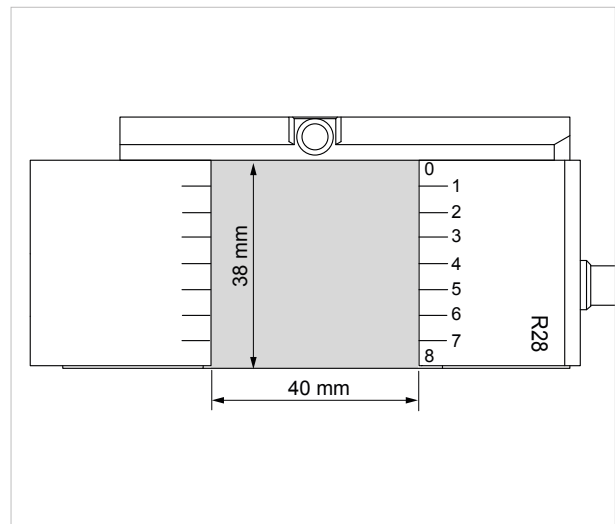

Fig. 24
- The maximum dimensions of the subject to be engraved are: 38x40 mm (see Fig. 24).
ATTENTION: (*) keys and medals must be metal. Engraving cannot be carried out on other materials (wood, paper, plastic, ceramics...). (*) the maximum dimensions of the object to be engraved are: 38x40 mm (Fig. 24).